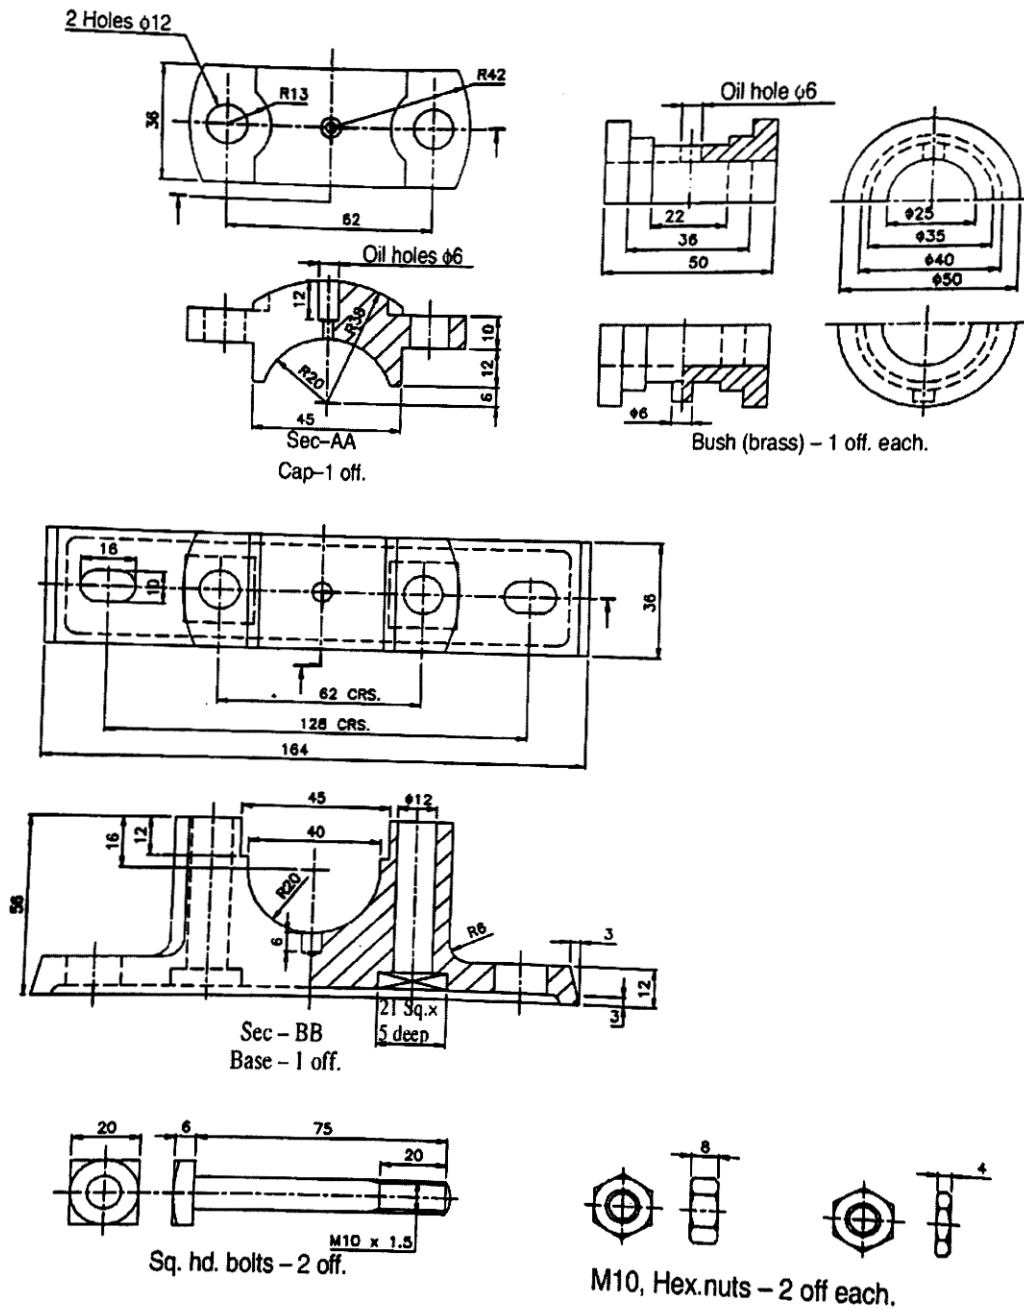

Figure Q1
1. Draw the assembly drawing of the Plummer block (half sectional front and top view). The detailed drawing of the Plummer block is shown in Figure Q1.